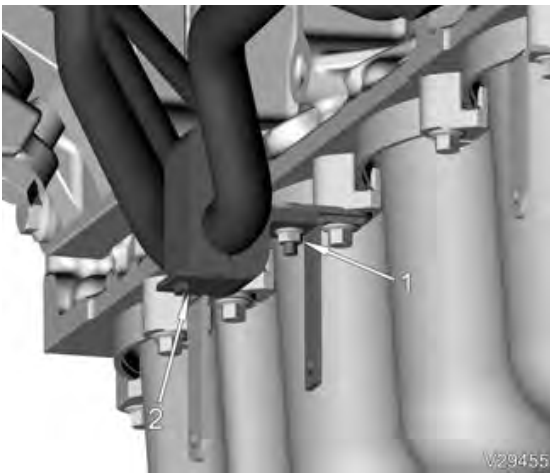

Figure 35. Pressure Tubes Support Bracket
28. Install M6 x 1.0 nut onto extension clip stud to secure rear support bracket at oil pan (Figure 35). Do not tighten at this time.